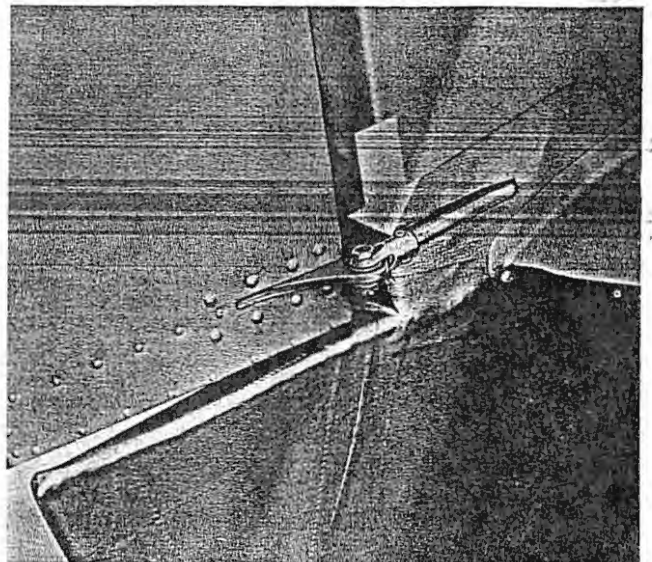

Figure 2-52. Rudder Tab Travel Adjustment
- e. Adjust the actuator rod so it will connect to the tab horn in this position (figure 2-52).